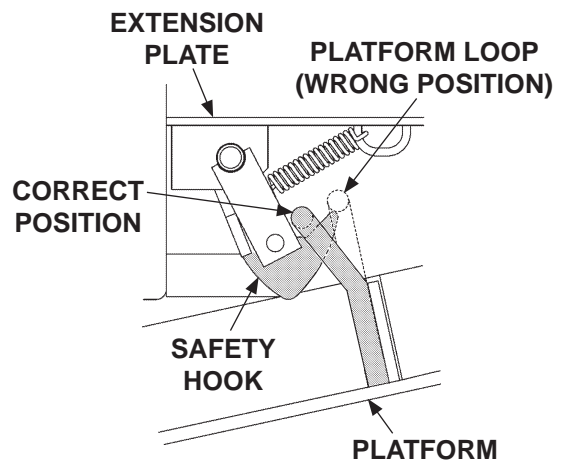

FIG. 23-1
2. When the Liftgate is stowed, see if **platform loop** is positioned above the **safety hook** as shown in **FIG. 23-1**.